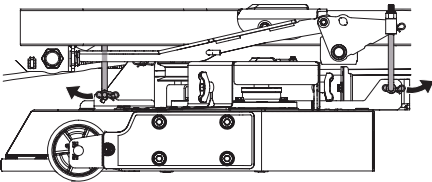

Figure 52
8. Remove the bow-tie pin from the bottom clevis end of each deck height adjust rod. There is one at the front and one at the rear on each side of the deck (Figure 52) (left side shown).